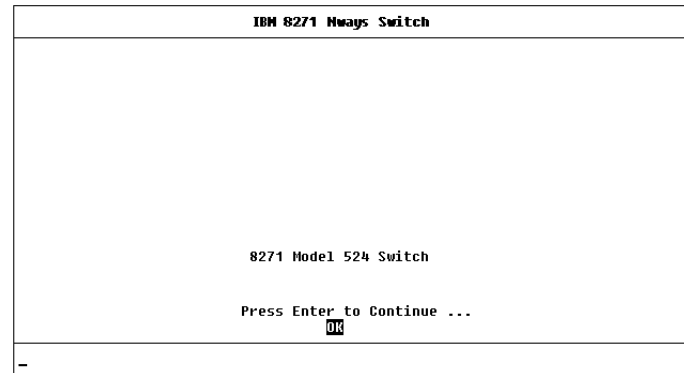

Figure 3-1 Main Banner
- 1 At your terminal, press [Return] two or more times until the Main Banner is displayed (shown in Figure 3-1). The console port detects the line speed (baud rate) from these keystrokes and defaults to: